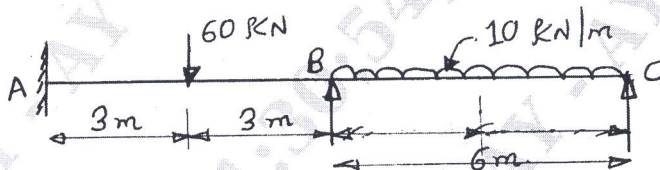

Fig Q2
- 2 Analyse the continuous beam shown in Fig Q2 by flexibility method using force transformation matrix. Choose moments at A and B as redundant; Also draw Bending Moment Diagram. EI is constant